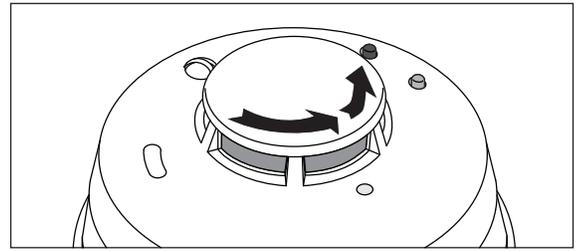

Figure 7: Remove Detector Cap
4. Press the sides of the smoke chamber in where indicated by the alignment arrows. Pull the chamber up and away from the detector and discard. See Figure 7.